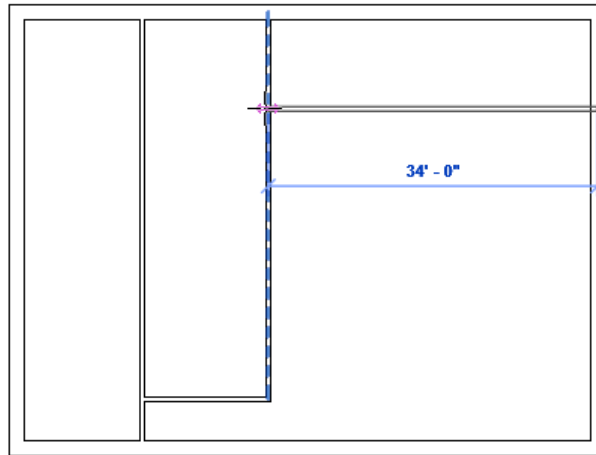

Figure 3-85 Horizontal wall created at the distance of 10' from the outer exterior wall
7. Press and hold the SHIFT key and move the cursor horizontally toward left until it reaches the vertical interior wall. Next, click to specify the endpoint of the wall, as shown in Figure 3-85. Now, press ESC twice to finish the sketch of the wall.